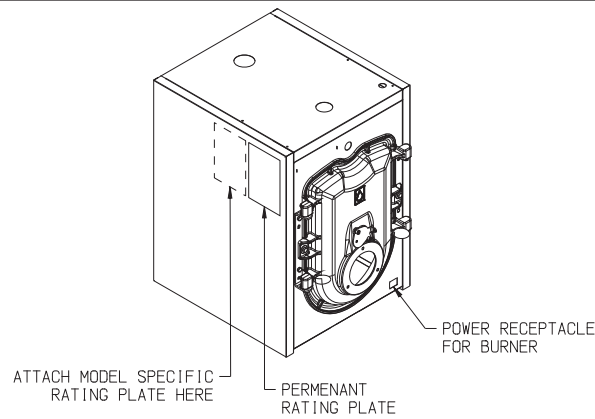

FIGURE 4.0: RATING PLATE LOCATION
- 3) Plug the burner cord into the receptacle on the lower right front corner of the boiler as shown in Figure 4.0
- 6) Attach the model-specific rating plate for the specific boiler model that is provided in the burner box to the left of the permanent rating plate already on the boiler (Figure 4.0). Note that some burner boxes may contain rating plates for both water and steam models; be sure to select the appropriate FWZ series rating plate. Before applying the rating plate clean the area where it is to be applied with a clean, dry lint free cloth.